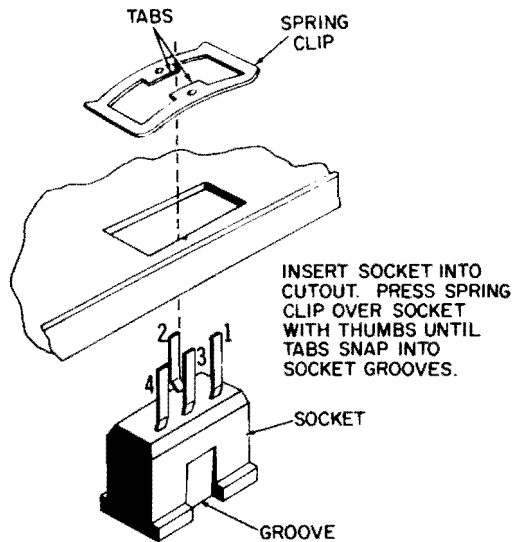

FIGURE 6
- (✓) 35. Install the small, 4-pin in-line transistor socket in cutout at location D, Figure 5. Position terminals as shown in Figure 5. Also see Figure 6 for method of mounting. After mounting, bend terminals over as shown in Figure 5. Use a small file to enlarge the cutout if the socket does not fit without forcing.